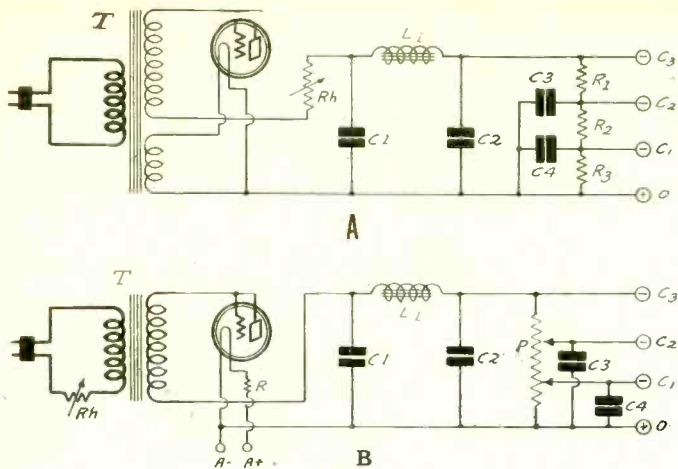

FIG. 40
In Fig. 40 are shown two such grid bias supply circuits. The upper, (A), is primarily intended to supply the bias in a receiver employing AC tubes, while that in (B) is suitable for receiver usings direct current on the filament, or on part of the filaments.
The output voltage of either of the circuits in Fig. 40 cannot be measured with any ordinary voltmeter, not even one of 1,000 ohms per volts. The only way to get the correct voltage is to use a vacuum tube voltmeter. And for this the tube to be biased can be used.
Either of the circuits in Fig. 40 takes less room than a dry cell battery giving the same voltage, and it will cost less, last longer and give dependable service whenever it is needed. The power required to operate it is essentially that required to heat the filament.